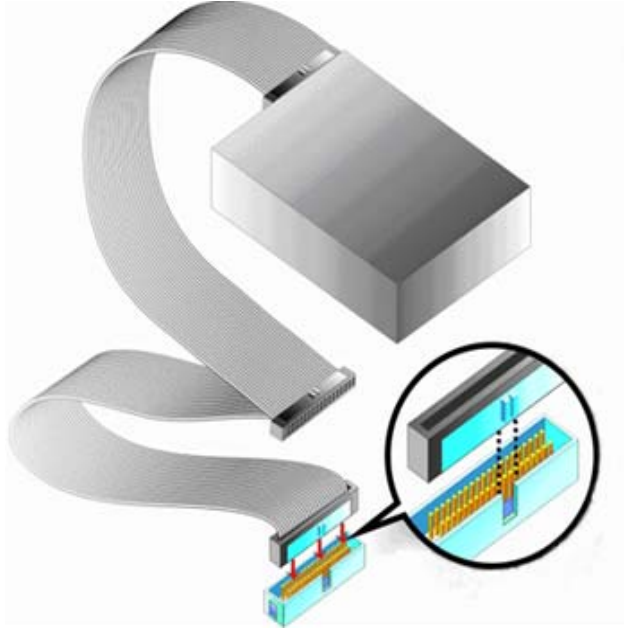

Figure 5-10: IDE Cable Connection
- Step 2: Insert the connector.** Connect the IDE cable connector to the onboard connector. See **Figure 5-10**. A key on the front of the cable connector ensures it can only be inserted in one direction.